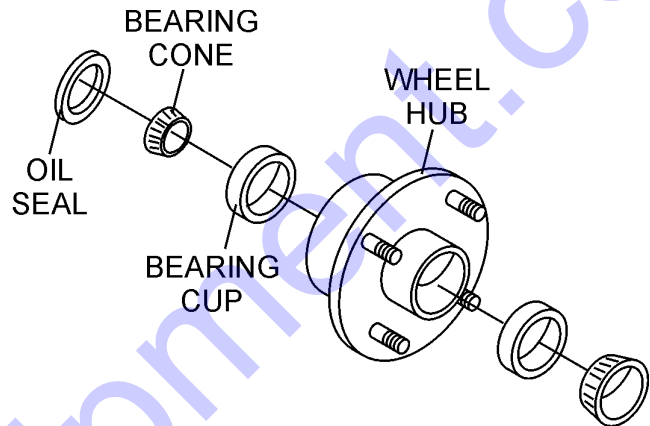

Figure 22. Wheel Hub and Bearings
1. After every 3 months of operation, remove the hub dust cap and inspect the wheel bearings (Figure 22). Once a year, or when required, disassemble the wheel hubs remove the old grease and repack the bearings forcing grease between rollers, cone and cage with a good grade of high speed wheel bearing grease (never use grease heavier than 265 A.S.T.M. penetration ("No.2").
2. Fill the wheel hub (Figure 22) with grease to the inside diameter of the outer races and also fill the hub grease cap. Reassemble the hub and mount the wheel. Then tighten the adjusting nut, at the same time turn the wheel in both directions, until there is a slight bind to be sure all the bearing surfaces are in contact.